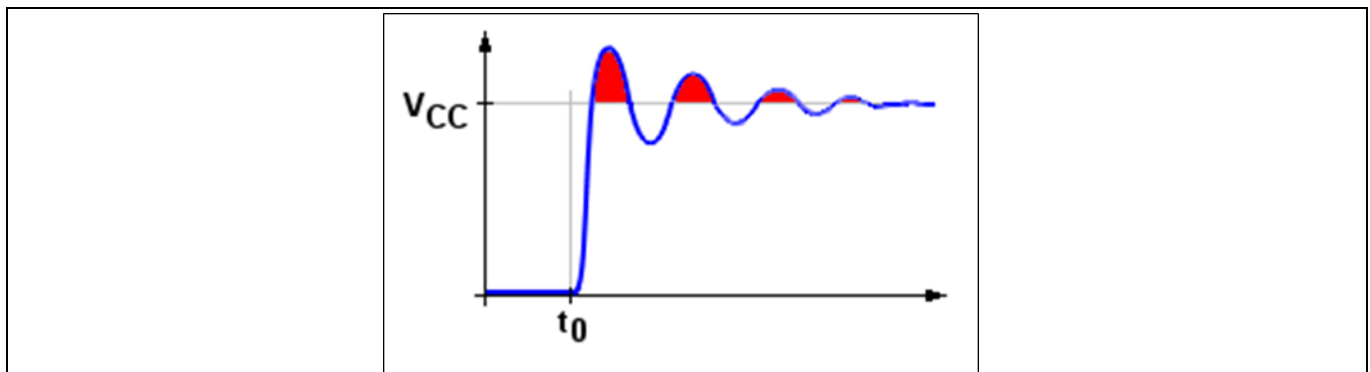

Figure 10 Signal overshoots on port pin after closing the switch
This (weakly) attenuated oscillator causes voltage overshoots on the port pin (point (B)), as shown (in red) in Figure 10.